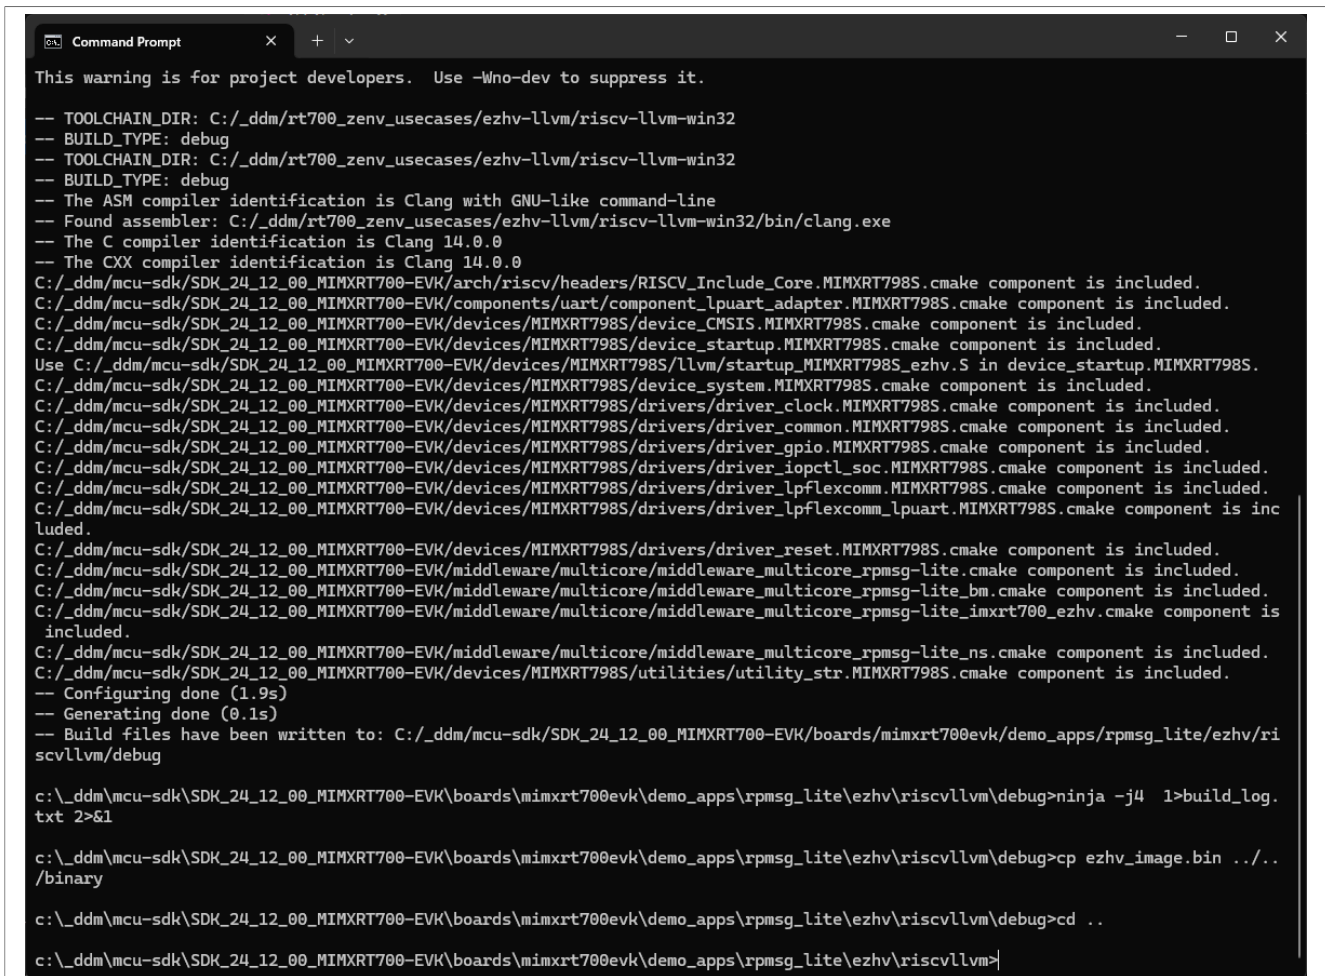

Figure 14. Running build script in command prompt
3. Run *build_debug.bat* or *build_release.bat*, as shown in Figure 14.